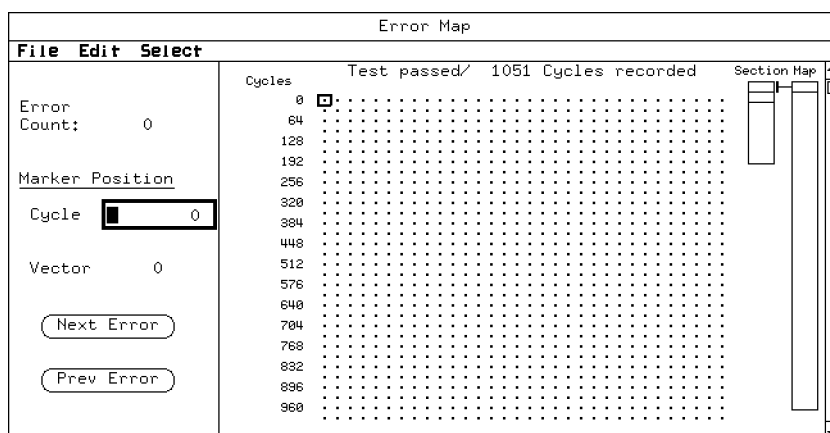

Figure 9-13. Error Map
- Click **Error Map** in the **MAIN** menu. An Error Map screen is shown in Figure 9-13. An Error Map shows marks at cycle addresses where the expected data pattern differs from the received data pattern.